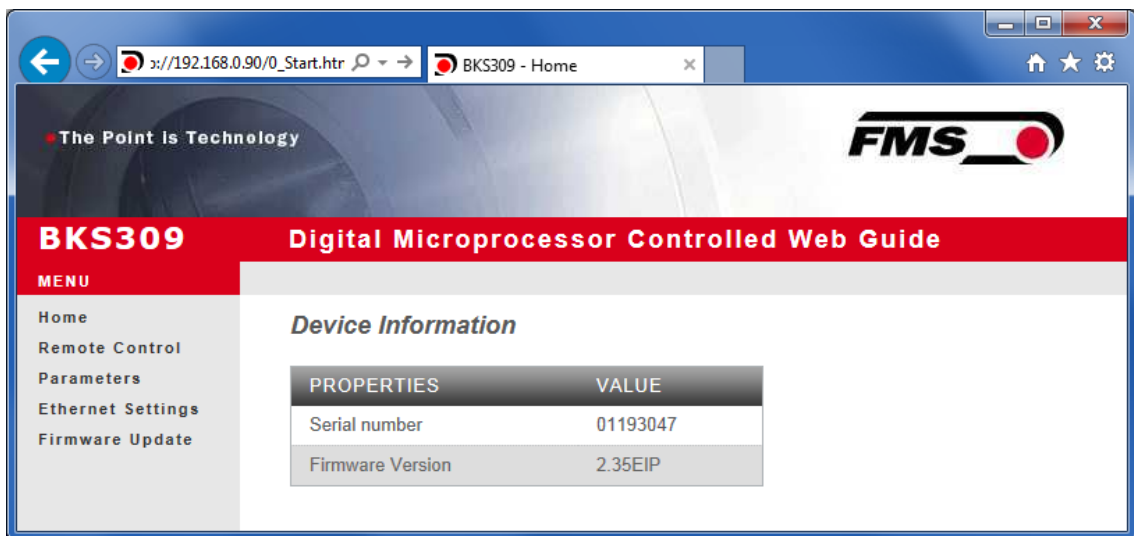

Fig. 27: Serial number and device information Home.jpg
Before the parameterization of the BKS309.EIP it must be certain that the BKS309.EIP uses an IP address in a static block. For the integration of a BKS309.EIP web guide controller in your Ethernet network please contact your IT system administrator. Once the BKS309.EIP was integrated in the network you can address the device e.g. with <http://192.168.0.90>. After establishing the link, the screen **Fig. 27** will open up.
4. The screen **Fig. 27** will open up. Continue then with the procedure described in **11.1** “Parametrization in a Network via a Web Browser”.